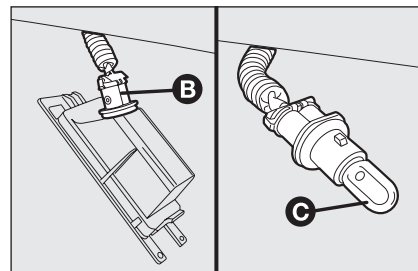

fig. 35
- turn the bulb holder **B**-fig. 35 clockwise;